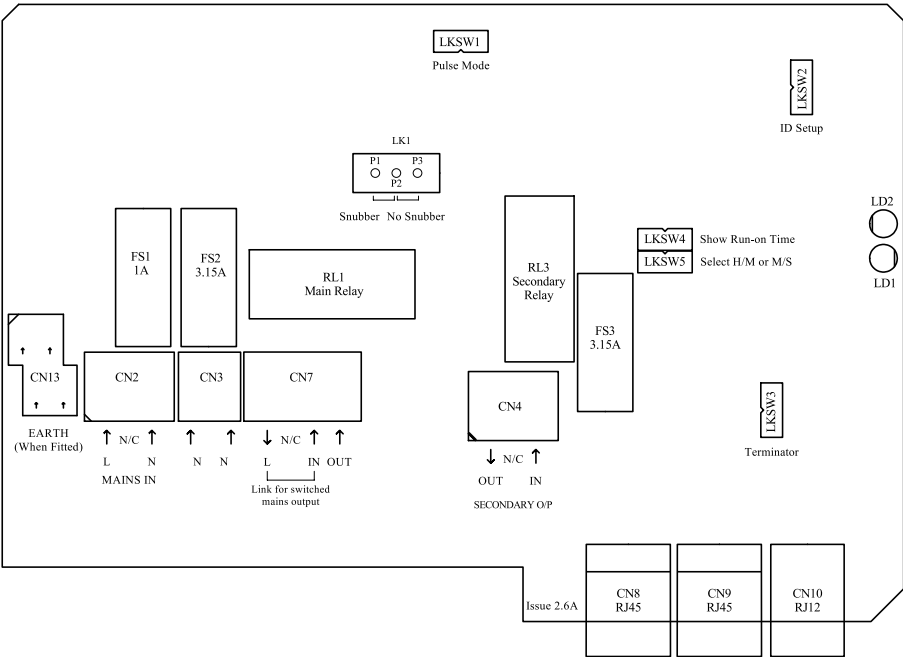

Figure 2 Wiring Details for Sigma Equipment Control
Each appliance to be controlled requires its own Equipment Control Unit (ECU) which must be mounted near the relevant appliance. The ECU can be discretely hidden but should be accessible. Fit the ECU to the wall or ceiling and wire the unit as shown in figure 2 using the appropriate cable glands to provide strain relief. The mains supply is connected to CN2 and to either the earth stud or CN13, whichever is fitted, using cable not less than 1mm² as shown in figure 2.
For a switched 230V output link pins 1 and 3 of connector CN7. Alternatively connect pin 3 of connector CN7 to any convenient output voltage from the appliance (e.g. 24V feed from a tanning unit). Pin 4 of CN7 is wired to the input of the appliance. A snubber circuit to prolong relay life is selected by LK1. This is advisable for mains operation and is a factory default. To disable the snubber circuit remove the black link LK1 from between P1 and P2 and replace between P2 and P3 (see figure 2).
3. Select **option 8** by pressing 8. The display reads No REMS followed by a blank display. Enter the number of ECUs being installed and press enter. Put the first ECU ID setup switch (LKSW2 - figure 2) into the OFF position and the remote display connected to the ECU will display ID00.
4. Select **option 0** on the console by pressing 0, the display will show ADR. Enter unit number being configured (eg. 1 for first remote) and press enter and the display indicates which start option has been selected - start option 1 is the factory default. Return to the remote unit and the display should show IDXX where XX is the unit ID being transmitted and the red LED (LD2 - figure 2) flashes to indicate communication occurring. To accept this ID press the START button on the remote display and return the ECU setup switch to ON. At this point the remote display shows the ID number for a short period, the console stops transmitting and the console display returns to OPTION. **WARNING.** If the remote display shows version number then check RJ12 cable is wired correctly (see section 2.2)